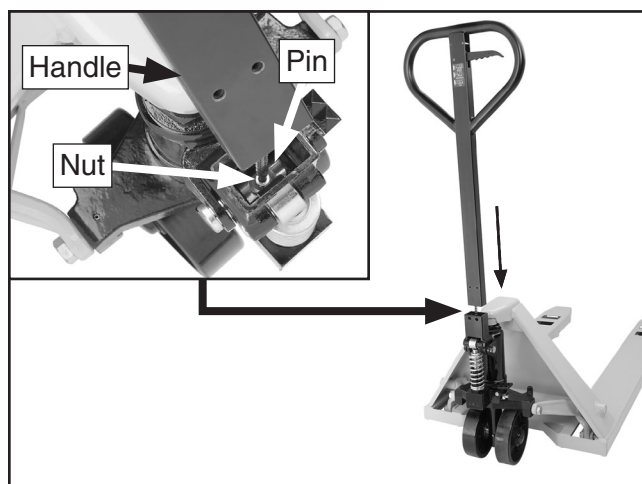

Figure 6. Installing handle into socket, and inserting chain into alignment pin (inset).
2. While holding the handle vertically above the socket on the base, insert the stud and lock nut on the end of the chain through the hole in the center of the alignment pin, as shown in **Figure 6**.